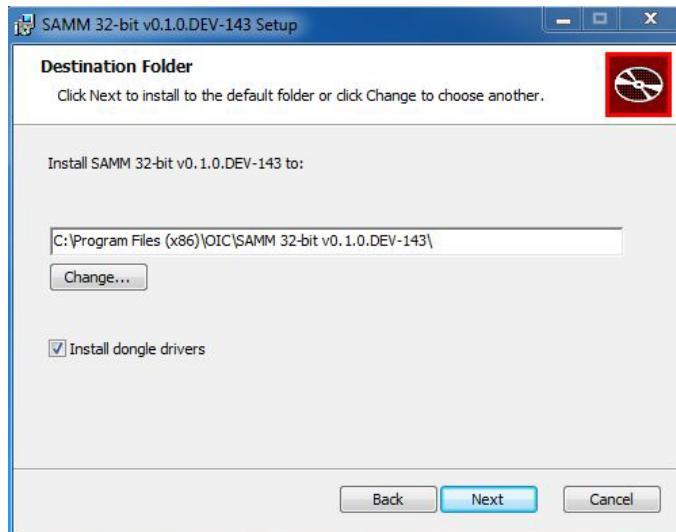

Figure 1. Install Dongle Drivers
3. Follow the onscreen installation wizard instructions to complete the installation. On the screen pictured in Figure 1, enable dongle driver installation by clicking the checkbox, as shown in the figure.